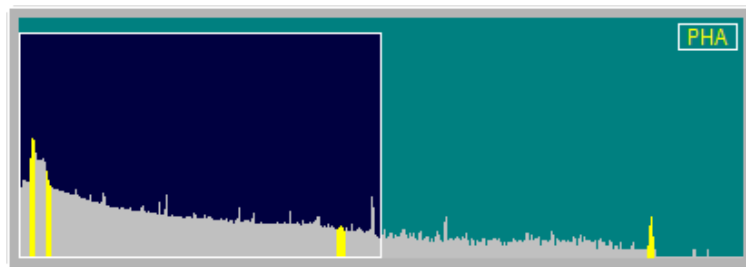

Fig. 6. Full Spectrum View with Expanded Spectrum View Area Highlighted.
7. The **Expanded Spectrum View** shows all or part of the full histogram; this allows you to zoom in on a particular part of the spectrum and see it in more detail. You can change the expanded view vertical and horizontal scaling, and perform a number of analytical operations such as peak information, marking ROIs, or calibrating the spectrum. This window contains a vertical line called a *marker* that highlights a particular position in the spectrum. Information about that position is displayed on the Marker Information Line (see item 10 below).
8. The **Full Spectrum View** shows the full histogram from the file or the Detector memory. Note the indicator in the upper-right corner, which indicates the unit's current data collection mode, e.g., pulse-height analysis mode (PHA), list mode (LIST), or one of the three zero-dead-time modes (ZDT, LTC, or ERR; see Fig. 39, page 38). The vertical scale is always logarithmic, and the window can be moved and resized (see Section 3.5.4). The Full Spectrum View contains a rectangular window that highlights the portion of spectrum now displayed in the Expanded Spectrum View (see Fig. 6). To quickly move to a different part of the spectrum, just click on that area in the Full Spectrum View and the expanded display updates immediately at the new position.